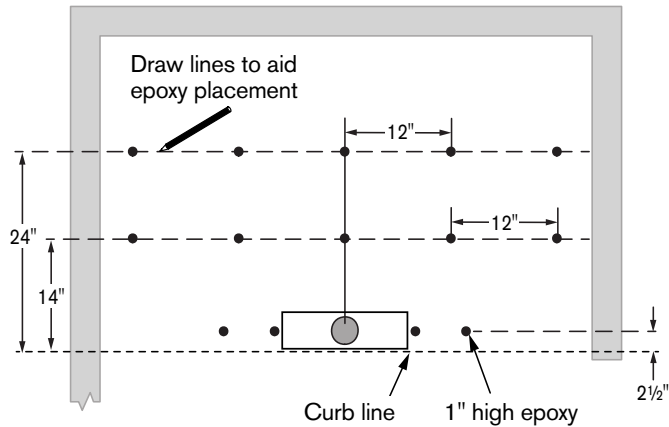

Figure 9
- 12 Before applying the supplied anchoring epoxy, mark the floor with the epoxy pattern and spacing shown below. (Figure 9)